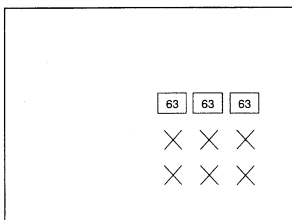

fig. 12
- Adjust the value on the screen to 63 by the volume up/down button (Fig. 12).